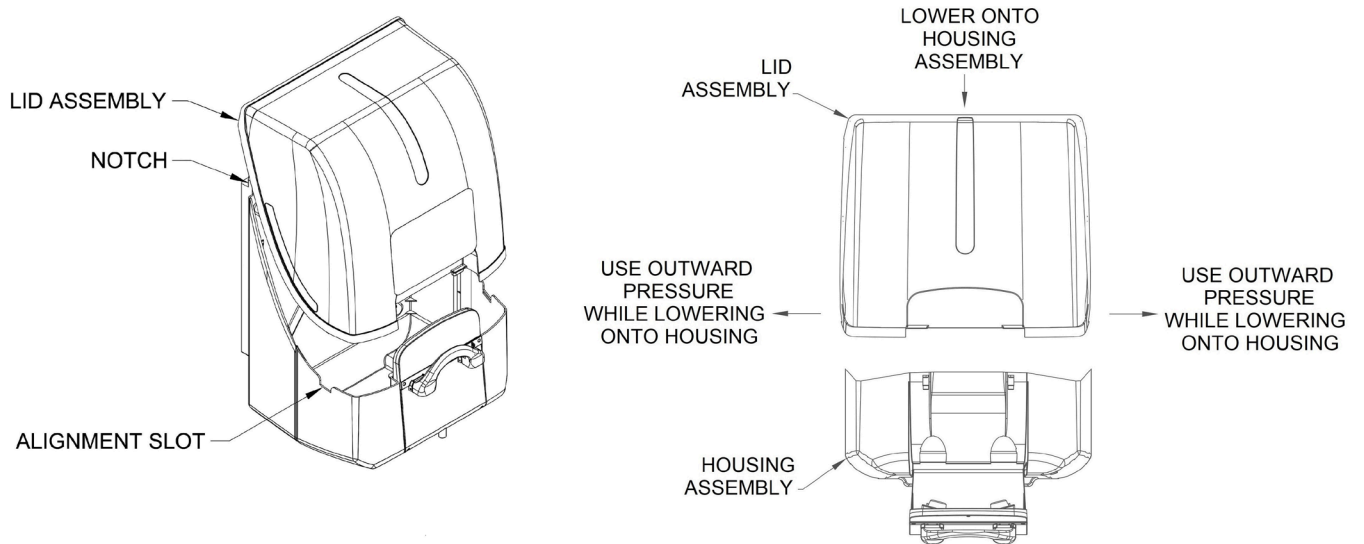

FIGURE 11
- A. Install by putting outward pressure on lid bottom while setting it onto housing assembly. Tabs on both sides should “snap” into place at alignment slot inside housing assembly (**Figure 11**).